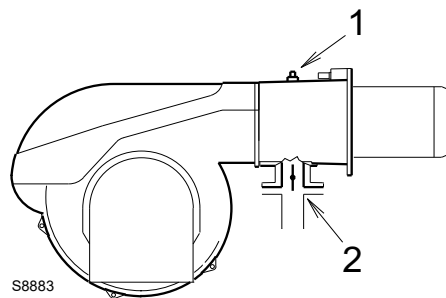

Fig. 19
Gas pressure measured at test point 1)(Fig. 19, page 20), with:
Pressure loss at gas butterfly valve 2)(Fig. 19, page 20) with maximum opening: 90°.
- subtract the combustion chamber pressure from the gas pressure measured at test point 1)(Fig. 19, page 20).
Gas pressure at test point 1)(Fig. 19) = 11.7 mbar
To calculate the required gas pressure at test point 1)(Fig. 19), set the maximum modulating output required from the burner operation:
- read, on the right (column 1), the pressure at the test point 1)(Fig. 19).
pressure required at test point 1)(Fig. 19).